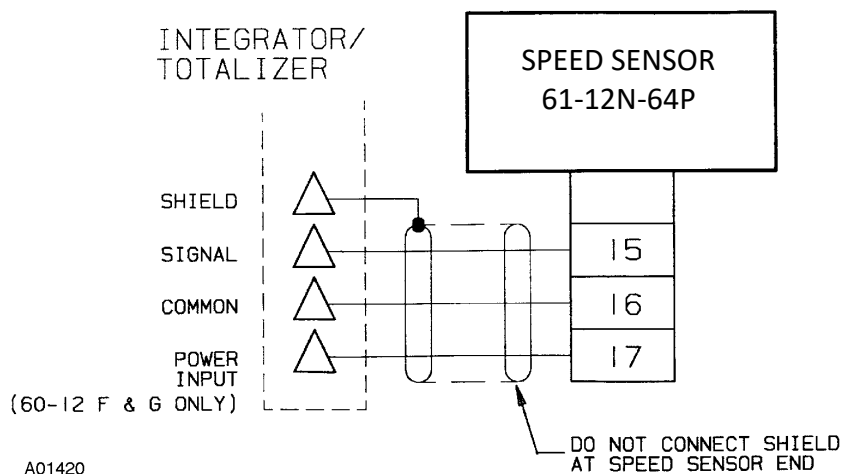

Figure 6. Field Wiring
5. Connect one wire to each of terminals 15, 16, and 17 as shown in Figure 6. Replace the terminal strip cover.